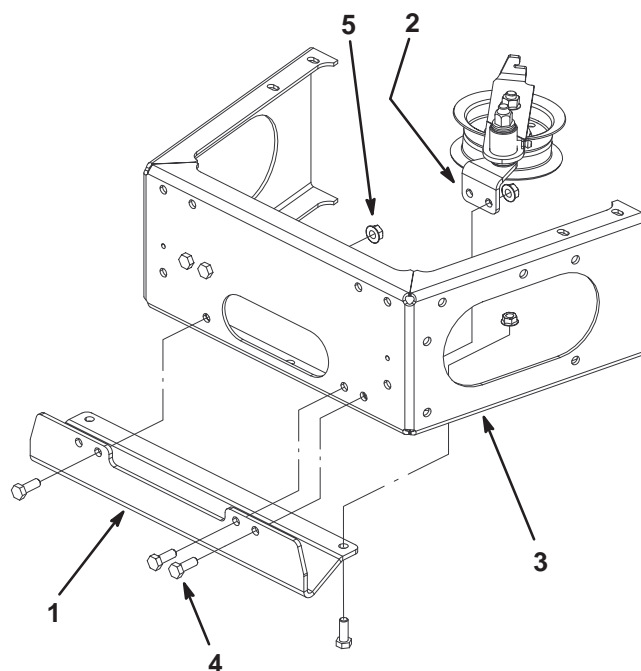

Figure 12
2. Install the skid plate and idler pulley bracket to the rear bumper with 3 bolts (5/16 x 7/8 inch) and 3 flange nuts (5/16 inch) (Fig. 12).
3. Install the skid plate to the bottom of the rear bumper with 2 bolts (5/16 x 7/8 inch) and 2 flange nuts (5/16 inch) (Fig. 12).